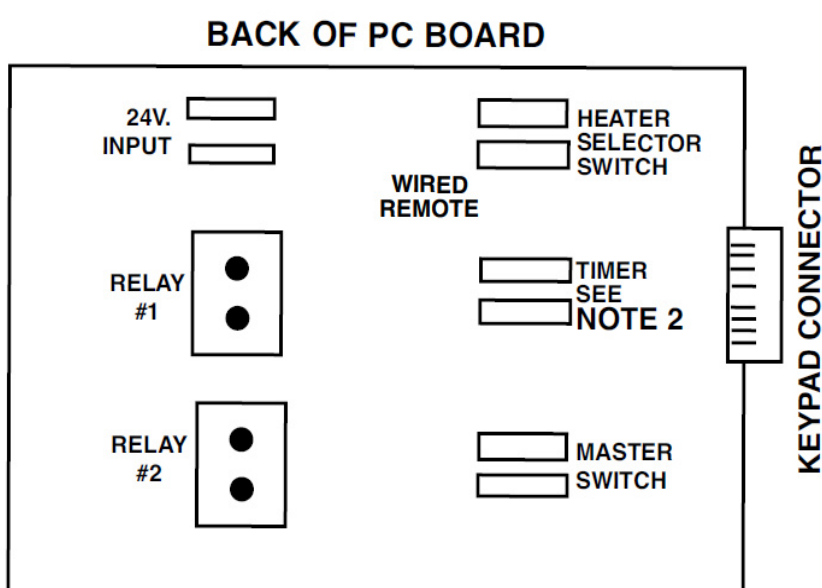

Figure 4 Input/Output Connections
3. Connect 120 or 240-volt filter pump supply to these leads. The double pole relay controlling the filter pump will close, as set by Jumper 2 either in the pool mode or in the spa mode. If the dry contacts of a time clock are connected to the two time clock terminals (See figure 4),